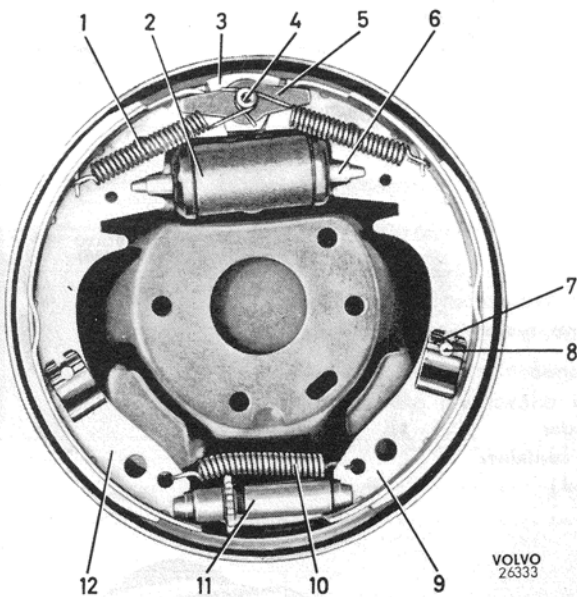
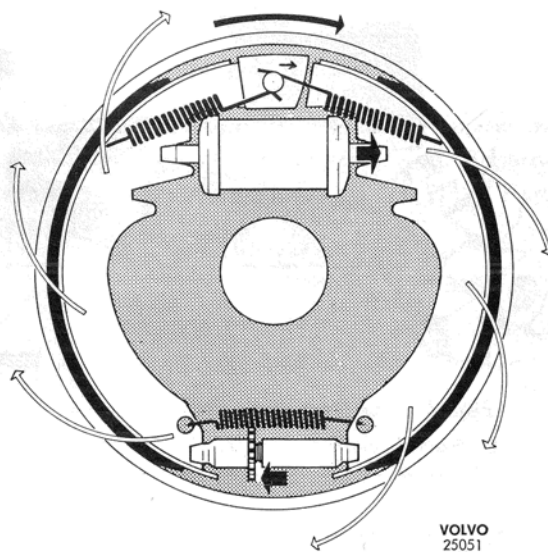
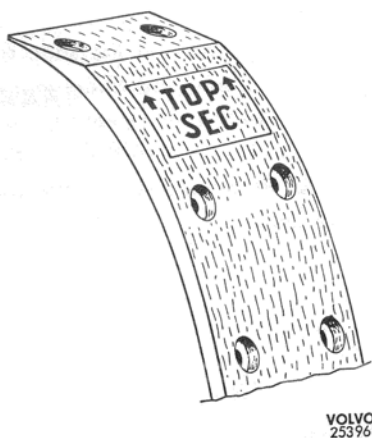

Fig. 4. Wheel brake unit, right front wheel
Fig. 6. Application of wheel brake unit
Fig. 14. Rear brake lining of front wheel
The brake shoes (9 and 12, Fig. 4) are flexibly attached to the brake backing plate by means of guide pins (8) and spring clips (7). The upper ends of the shoes are held pressed against the riveted centering block (3) by the return springs (1). The lower ends are joined by means of an adjusting device (11) against which they are held pressed by the spring (10), which in addition locks the serrated adjusting wheel. This arrangement makes the brake shoes self-centering and both the shoes partly self-applying (Duo-servo).
When the brake is applied, the wheel unit cylinder plungers press out the brake shoes against the brake drum by means of the thrust rods (6, Fig. 4). Because of the friction between the drum and lining, the shoes will follow round in the direction of rotation of the drum. Because of the flexible suspension of the brake shoes, the primary shoe (9) will be pressed downwards and the secondary shoe (12) upwards until its upper end comes up against the centering block, see Fig. 6. The end of the secondary shoe
is then displaced on the block so that the shoe becomes centered in relation to the brake drum. Since the pivoting point of the secondary shoe is at the anchor pin (4, Fig. 4) and that of the primary shoe at the adjusting device, brake application will be assisted by friction between the drum and lining, Fig. 6. This effect is also enhanced by the fact that the primary shoe tends to follow round in the direction of rotation of the brake drum and this has the effect of applying the secondary shoe. In order for the brake linings to attain the greatest possible length of life, the rear shoes (secondary shoes) on the front wheel brake units are fitted with thicker and eccentrically ground linings.
Fit the ready-made original lining. **Note that the rear brake shoes of the front wheels (secondary shoes) should be fitted with thicker and eccentrically ground linings marked on the ground side as shown in Fig. 14, that is "TOP SEC". The thicker part (marked) should face upwards. The shorter primary lining should be placed as shown in Figs. 4 and 5 respectively.**